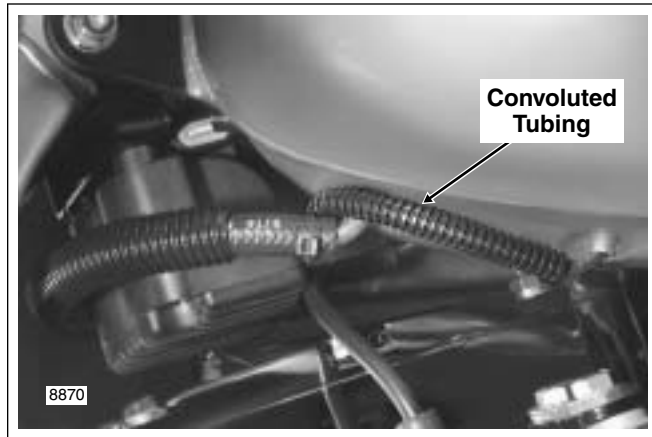

Figure 9-14. Fuel Gauge (FLHR/C/S)
12. Connect fuel gauge to main harness. Route pin housing and convoluted tubing forward and then inboard between front of crossover hose fitting and bottom of fuel tank. Mate pin and socket halves of fuel gauge connector [117], 4-place Multilock. Feed connector into tunnel of fuel tank. See Figure 9-14.
8. At bottom left side of fuel tank, gently pull on convoluted tubing to draw fuel gauge connector [117], 4-place Multilock, out of tunnel. Depress button on socket terminal side and pull apart pin and socket halves. See Figure 9-14.
11. Connect fuel gauge to main harness. Route pin housing and convoluted tubing forward and then inboard between front of crossover hose fitting and bottom of fuel tank. Mate pin and socket halves of fuel gauge connector [117], 4-place Multilock. Feed connector into tunnel of fuel tank. See Figure 9-14.